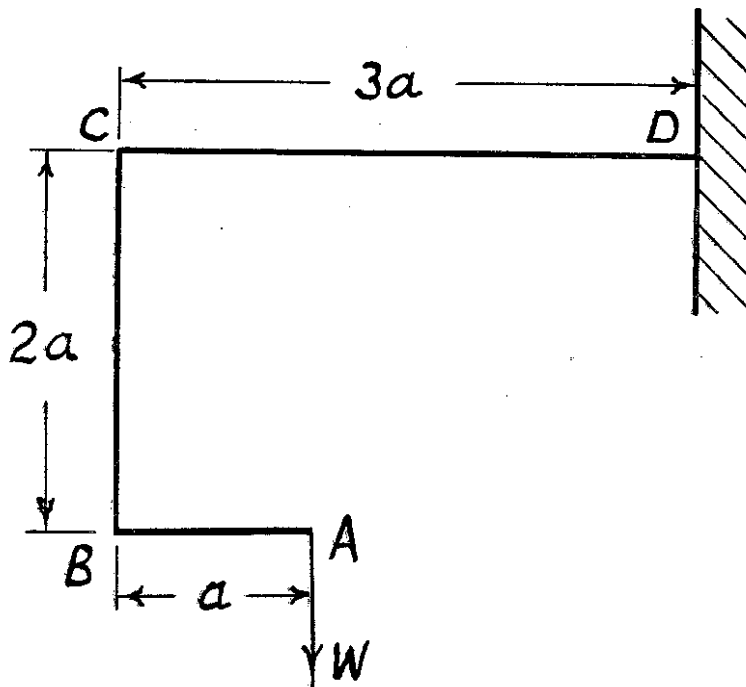

Figure 1
4. A bar of uniform flexural rigidity EI and total effective length $6a$ is bent to the shape shown in Figure 1 with end D firmly fixed; AB and CD are horizontal and BC is vertical. A load W is suspended from the free end A.